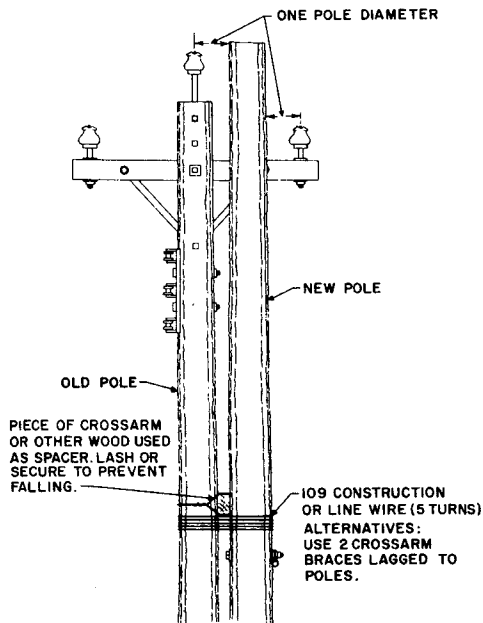

Fig. 6—Lashing Poles Together
7.08 Where the new pole is within 2 or 3 feet of the old pole, cut a block or length of wood from an old guard arm, crossarm, or 2- by 4-inch lumber, and wedge and lash the poles as shown in Fig. 6.